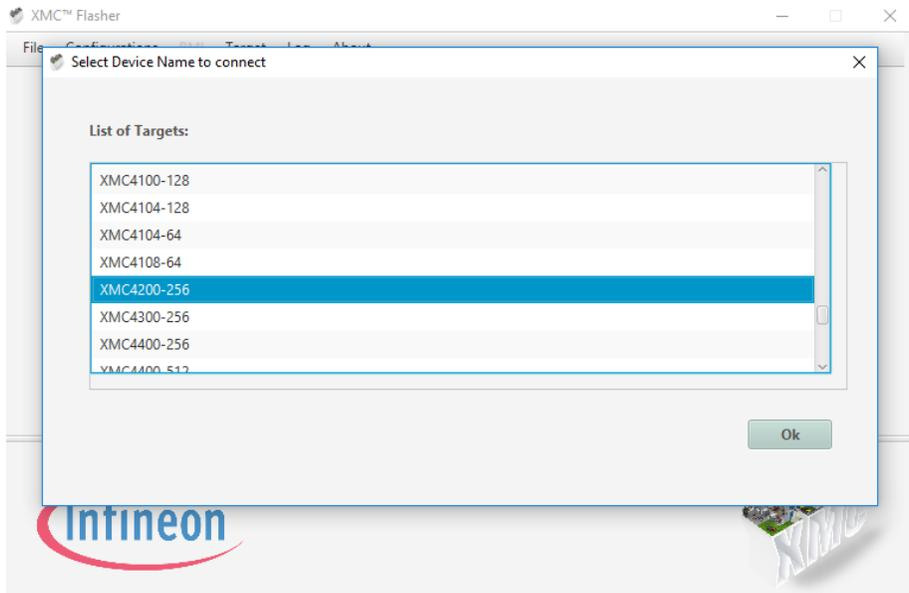
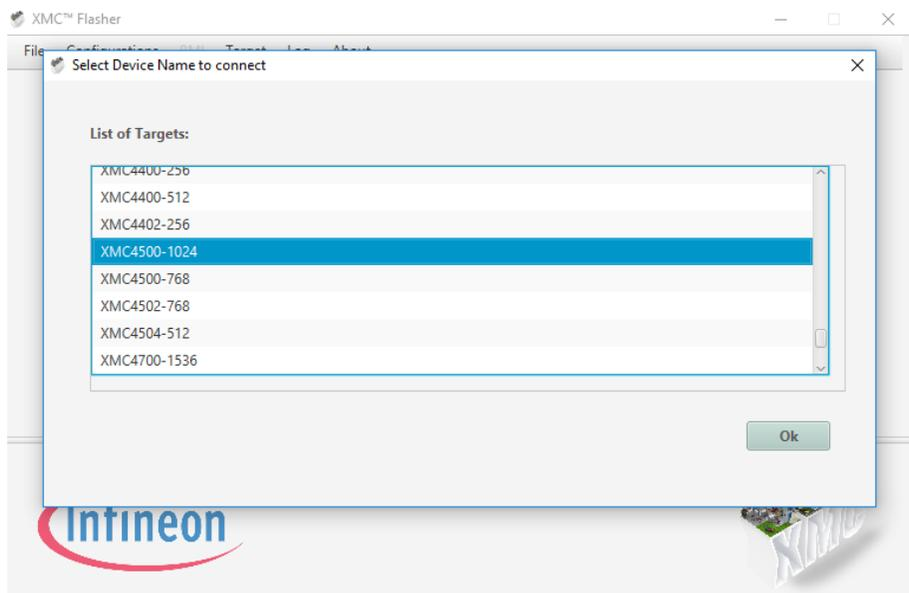

Figure 8. XMCFlasher Device Selection Window – OPS241/OPS242
Figure 9. XMCFlasher Device Selection - OPS243
Step 6. With the OPS241/OPS242/OPS243 connected to the PC, press the Connect button on XMCFlasher. A pop-up window like that in Figure 8 will appear. For the OPS241/OPS242, scroll down and select the XMC4200-256 and press Ok. For the OPS243, there are two options to choose depending on your board version. Some version D2 and later sensors use the XMC4700 while most others use the XMC4500. Check which processor is used by issuing a ?P API command. Once the processor to select is known, scroll down and select the appropriate sensor as shown in Figure 9 and press Ok.